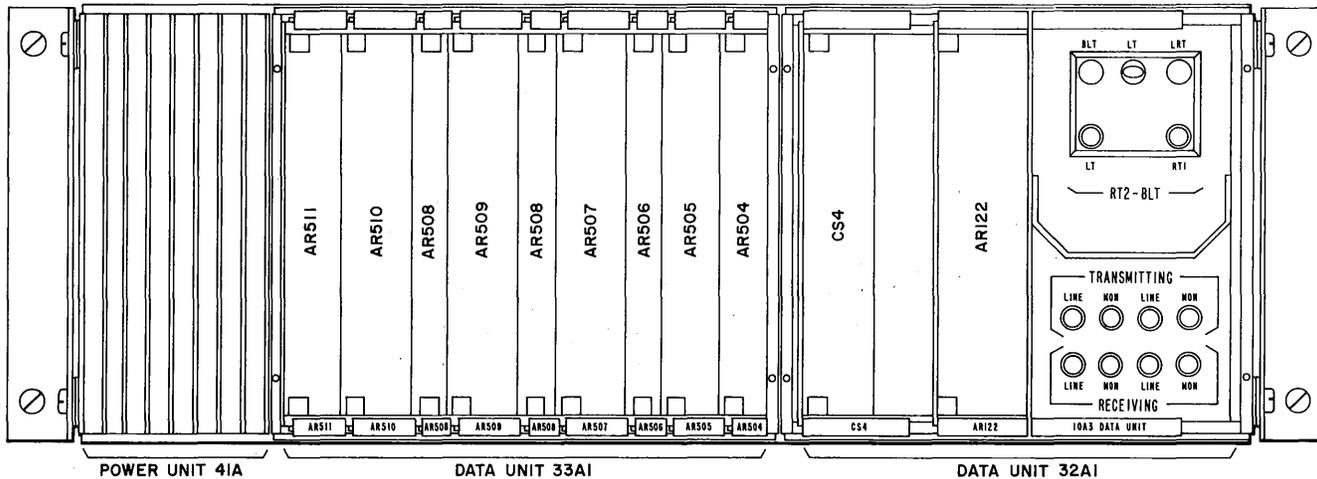

Fig. 3—Circuit Pack Location in Data Set 306A-L1/2
2.09 If the circuit packs have to be inserted in the data set when it is installed, refer to Fig. 3 for proper location of the circuit packs.